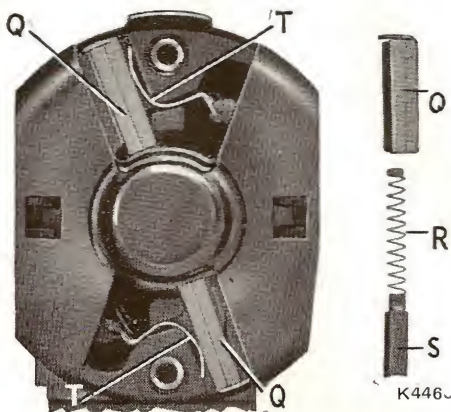

Fig. 11
Unless the machine is worked continuously, the brushes, which are of the best grade procurable, should last for several years, but it is well to examine them every twelve months to make sure that they are not wearing excessively. Before replacing the brush tubes (Q) take care that the brushes (S) are in the position they occupied before removal, with the concave end in the position shown in Fig. 11. When inserting the brush tubes make sure that they are in contact with the spring (T).